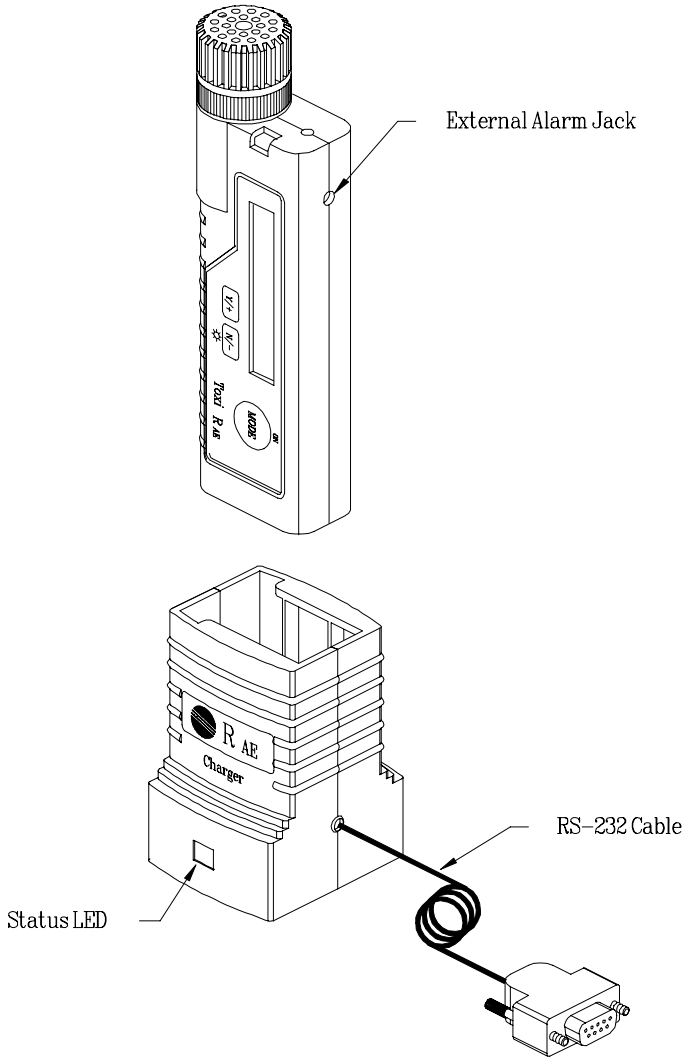

Figure 3.1 Single Unit Charging Station
2. With the Pocket PID front cover facing the same direction as the front label of the charging station, as shown in Figure 3.1, place the Pocket PID into the slot.